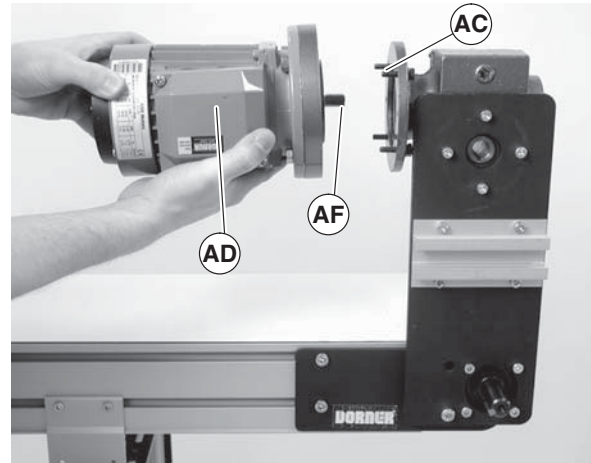

**Figure 22**
- For DC variable speed motor, unplug motor cord at disconnect (Figure 22, item AN).